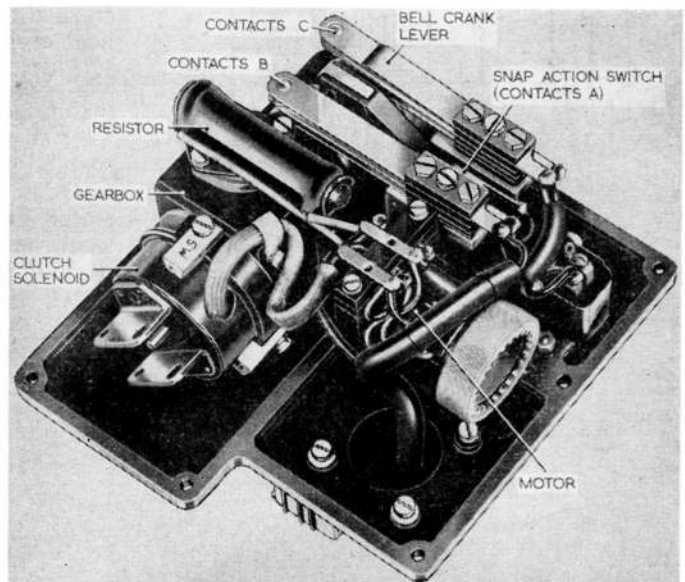

Fig. 1. Time switch, Type FHM/A/54
3. The mechanism of the switch (*fig. 1*) consists of a governed, series wound electric motor, coupled to reduction gearing, which drives a bank of cams. These cams operate two banks of leaf-spring